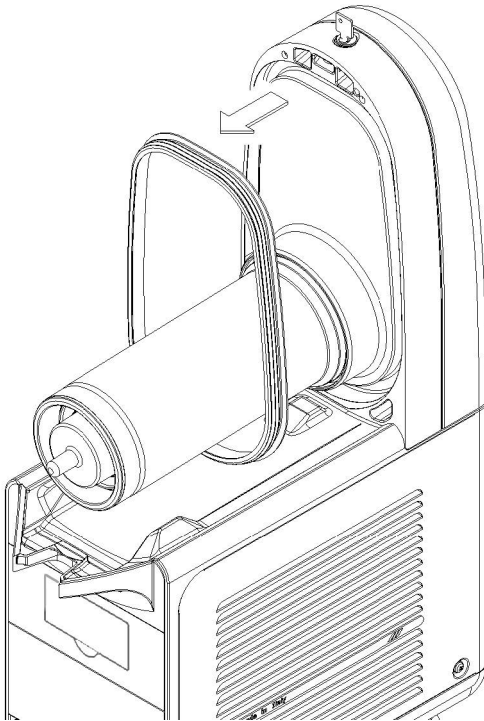

figure 11
- 4** Remove the gasket from its housing (see figure 11).